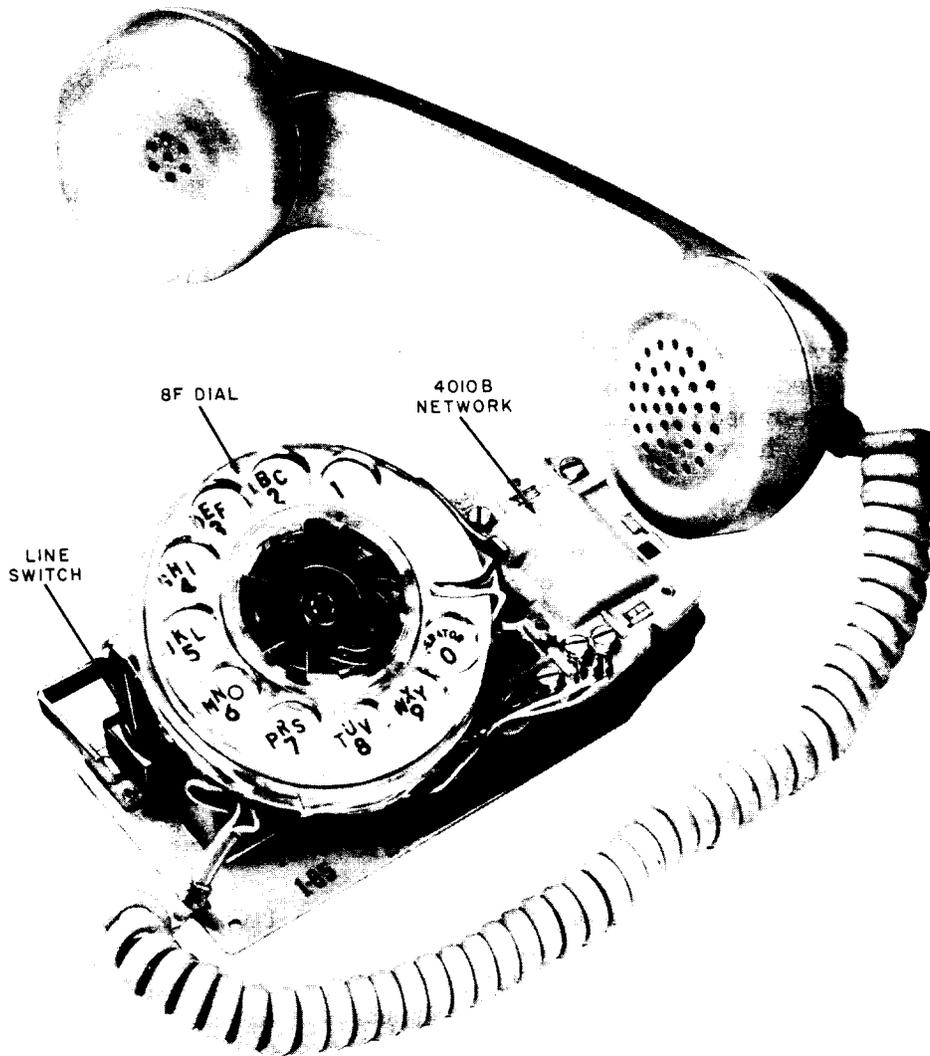

Fig. 1 — 11A Apparatus Unit
**2.01** The 11A apparatus unit (Fig. 1) consists of a G3AR handset, H4CJ handset cord, 4010B network, 8F dial, and a line switch mounted to a flat metal baseplate. The handset and handset cord are light gray (-61) color although handsets and cords of other colors are available. See section covering telephone apparatus color.